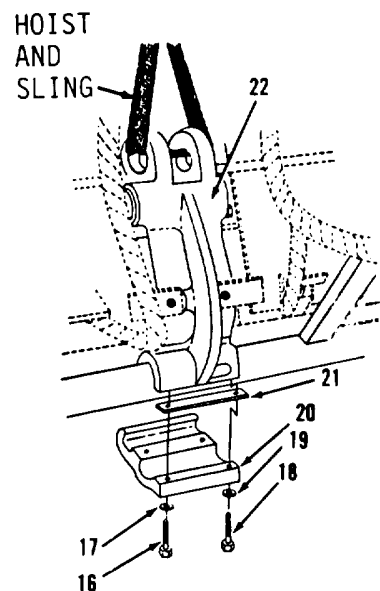
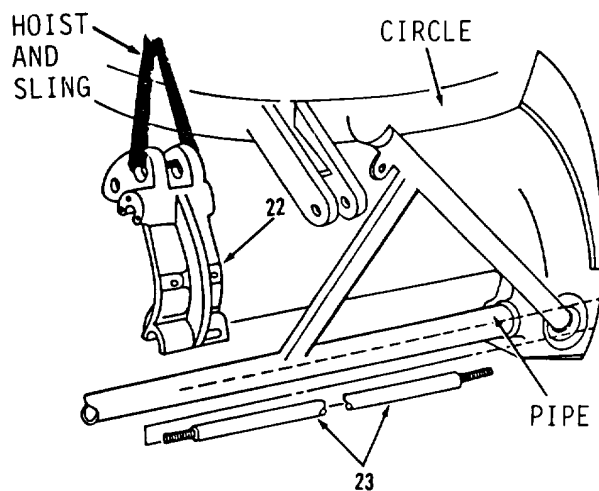
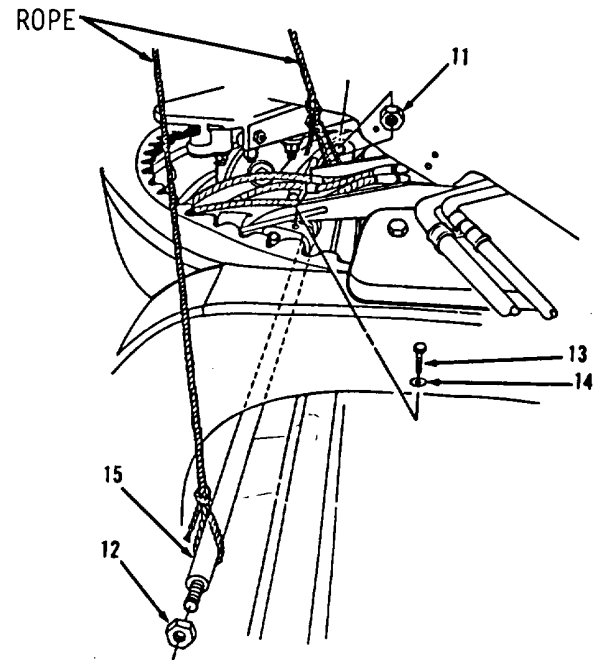

Figure 12-21.
Figure 12-22.
Figure 12-20.
10. Attach hoist and sling to bracket (22, Figure 12-21).
11. Remove two bolts (16), washers (17), bolts (18), washers (19), cap (20) and ten shims (21) from bracket (22). Tie shims (21) together and tag for identification.
12. Remove bracket (22) and shaft (23, Figure 12-22).
1. Position shaft (23, Figure 12-22) in pipe at bottom rear of circle.
2. Attach hoist and sling to bracket (22).
3. Install bracket (22).
4. Install ten shims (21), cap (20), two washers (19), bolts (18), washers (17) and bolts (16, Figure 12-21).
5. Remove hoist and sling from bracket (22).
6. Install bar (15). Aline tapped holes in bar (15) with holes in bracket (22, Figure 12-20).
7. Support bar (15) by tying both ends to frame with rope.
8. Install two washers (14) and bolts (13).